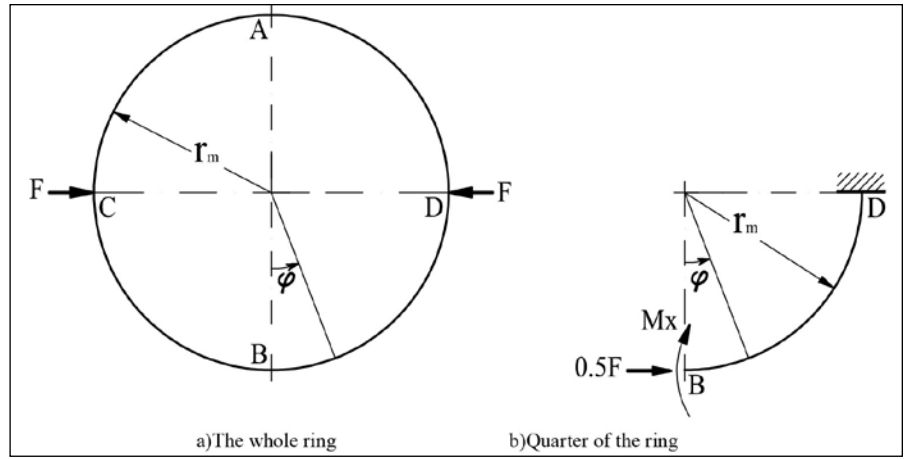

Figure 3 Force analysis on mid-layer of flex-spline.
It is known (Eq. 2) that the biggest bending moment occurs on sections D of  $\varphi = 90$  in the ring-flexspline (Fig. 3); its value  $M_{max} = -Fr_m/\pi$  (minus sign means that this bending moment decreases the curvature of the elliptic mid-layer). The stress at the outermost end (away from the center of the middle circle) on section D is the maximum compressive stress in cross-sections of the ring-flexspline, its value  $\sigma_{max} = 0.5 M_{max} \delta/I = -0.5Fr_m\delta/(\pi I)$ . The maximum compressive stress could be calculated from Equations 3 and 5:
**Cycle characteristic of alternating stress on section in ring-flexspline.** As mentioned above, the stress at outermost end on section D (Fig. 3) in the ring-flexspline is biggest (maximum compressive stresses), and smallest on section B (that is, minimum tensile stresses). Therefore, the stress on the ring's section is an alternating stress in an asymmetric cycle, which is a reason leading to fatigue failure for the flexspline.
The authors analyzed the radial deformation of the mid-layer and section stress of the flexspline under the action of EWG based on the research model of a smooth cylindrical shell. It showed that the stress in the flexspline at work is an alternating one of asymmetric cycle; the stresses of cross-sections in the flexspline's rim are larger at major axis and short axis of elliptical mid-layer; those between the major axis and short axis are smaller; and the stress in the short axis is bigger than that in the major axis. The most dangerous section, vulnerable to damage, is the contact zones (sections C and D, Fig. 3) of the wave generator and the flexspline.